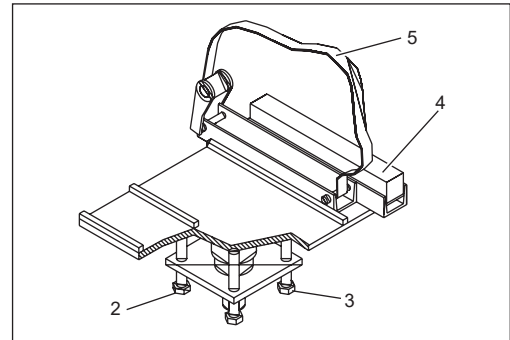

Fig. 6:
- loosen clamping screws (Fig.6/4) of the sliding pieces
- Change incline diagonally step by step: first loosen screw (Fig.6/2) and then adjust screw (Fig.6/3) etc.